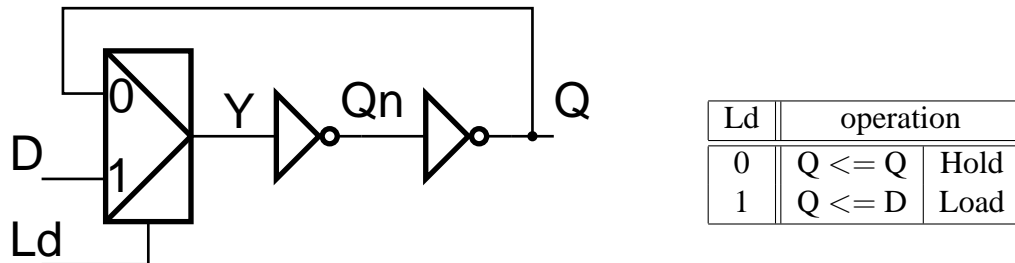
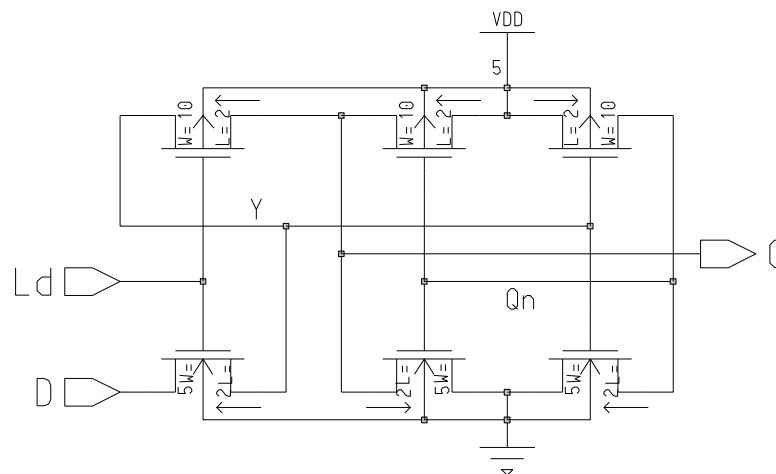
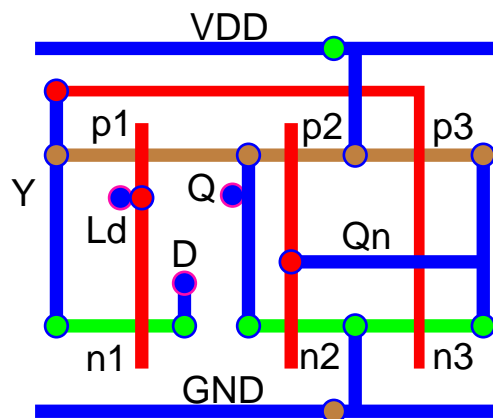

Figure 1: A logic diagram of a D Latch and its function table
Figure 2: A schematic of a D latch.
Figure 4: A stick diagram of the D Latch
A logic diagram of a D Latch and its function table is given in Figure 1. A transistor level schematic that you have to enter using Design Architect is given in Figure 2
- Assign names to all nets as in Figure 2. One way of doing this is through a pop-up menu: **Right Click > Name Nets:** Then change the Property Value to the appropriate name.
Before you attempt this section you have to **design a stick diagram** of your D Latch. You will waste lots of time if you do not do that. One possible stick diagram of the D latch which stems from the schematic of Figure 2 is given in Figure 4.
- Selecting the overflow lines or gates one-by-one you can identify the order transistors. After consulting the schematic (Figure 2) or the stick diagram (Figure 4), the circuit can be described by the following layout matrix: